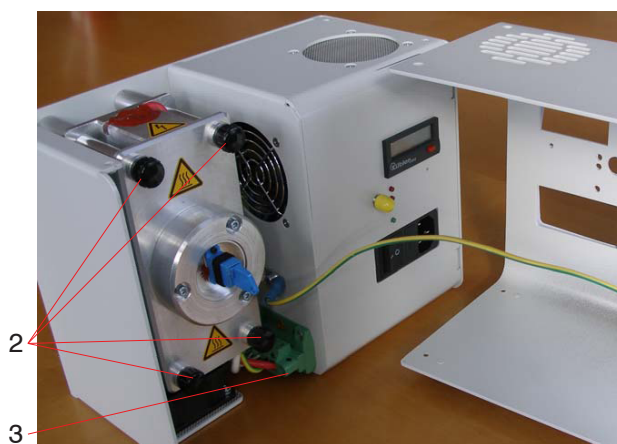

Fig. 73 Open Xenon light source with lamp module
- Carefully disconnect the green connector (3), see Fig. 73.
- Manually disconnect and remove the four knurled screws (2) with caution. Remove the lamp module.